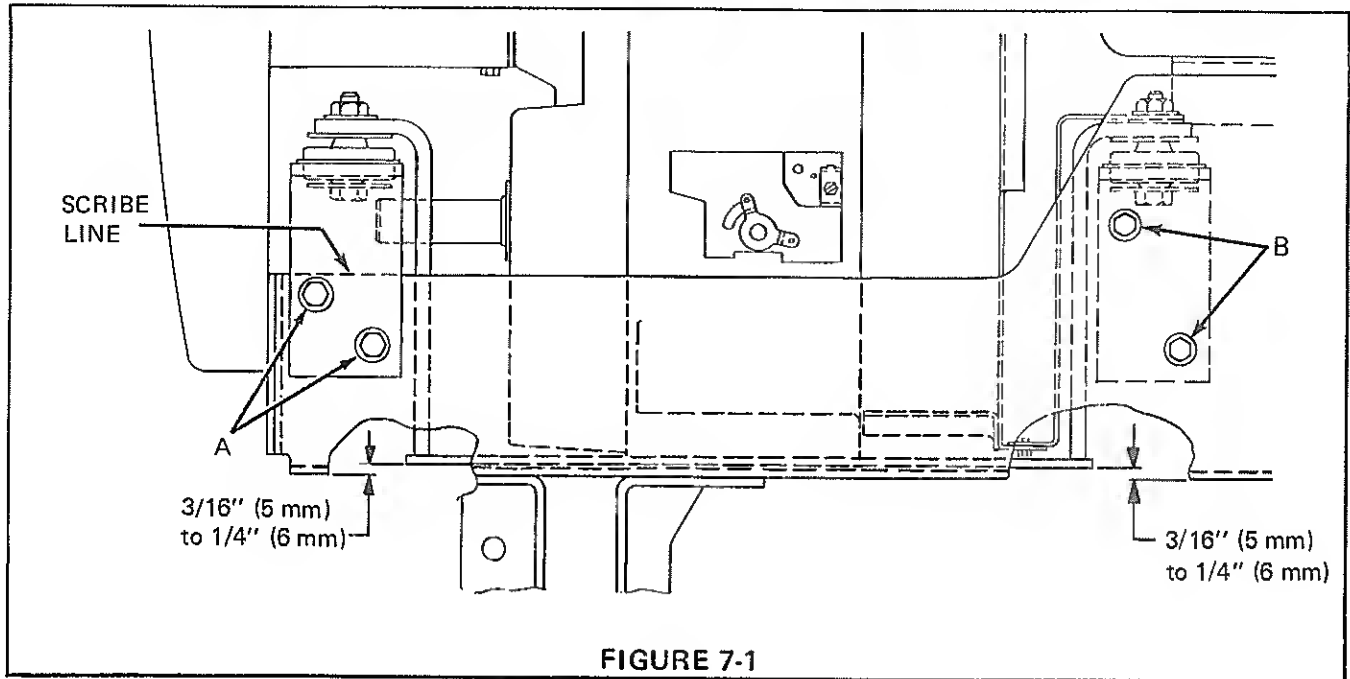

FIGURE 7-1
1. Set engine on rubber mounts in rear, lining up scribe line on front engine supports with frame and insert front four bolts (A). Insert proper engine mount spacers for engine height until a gap of 3/16 (5 mm) to 1/4" (6 mm) is reached between the bottom edge of the engine support and bottom edge of the side frame. This dimension should be held at the front and rear of the engine support. See Figure 7-1. Secure engine supports to frame, holding dimension given above.